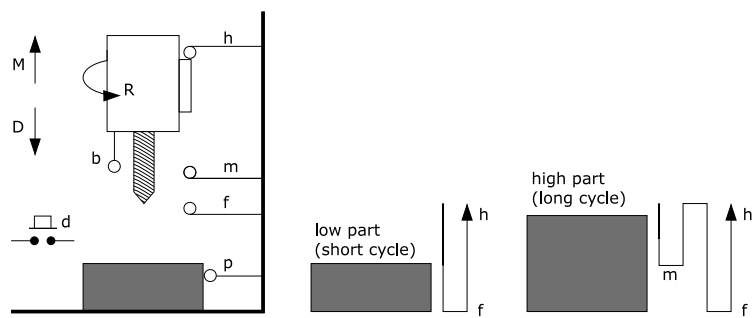

Figure 7
10. A drill carries out a drilling cycle which is controlled by Boolean variables d , h , m , f , b and p (see Figure 7) which are the inputs of the logic controller to be described by Grafcet (they are at 1 when there is contact). The outputs of this logic controller are the Boolean variables M , D and R (which are equal to 1 when the corresponding motors are running). The cycle begins when button d is pressed, if there is a part present. The parts to be drilled may be of two types, namely low or high parts.